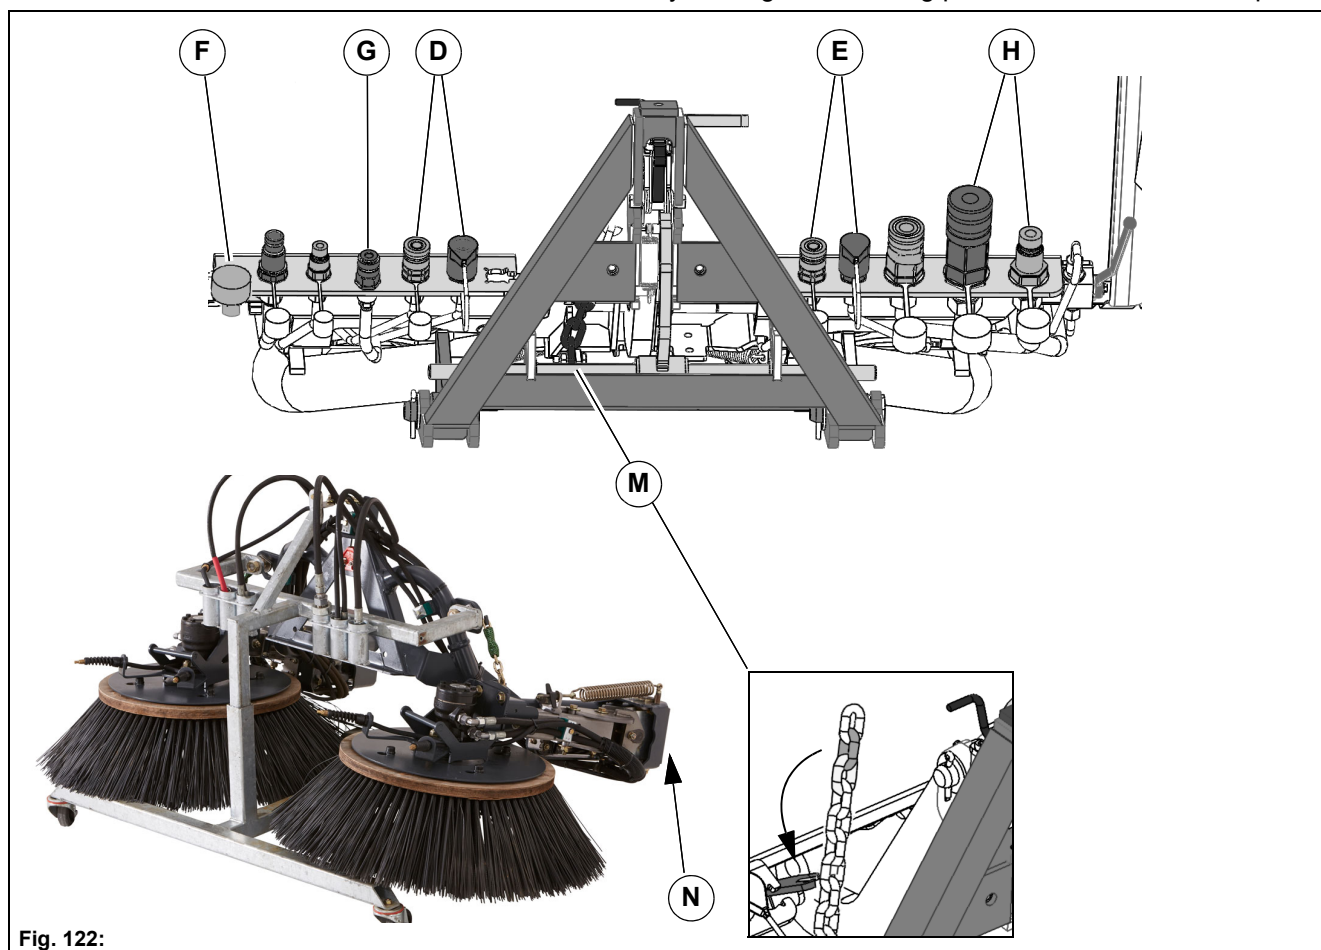

Fig. 122:
- Right actuator – Supply/return = **Fig. 122-D**
- Left actuator – Supply/return = **Fig. 122-D**
- 19-pin coding plug = **Fig. 122-F**
- Water connection for sweeping unit spray nozzles = **Fig. 122-G**
- Sweeping unit hydraulic motors – Supply/return = **Fig. 122-H**
8. Hook the chain **Fig. 122-M** in the first chain link. Lower the front tool carrier and drive the brush arms apart. Check that the edge **Fig. 122-N** stands vertically. Change the hooking position of the chain as required.